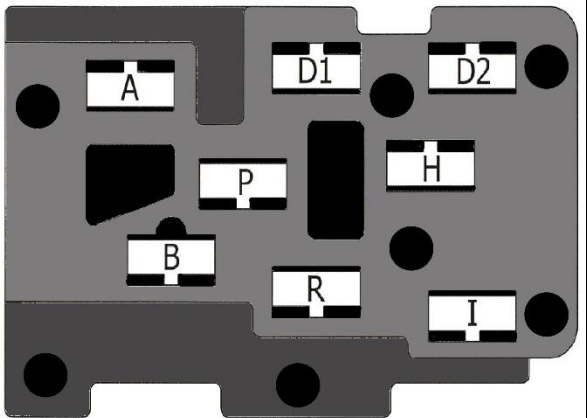

Figure 28 Headlight Switch Connector Housing Wiring (Wire Side View)
- Connect these wires of the Headlight Switch according to **Figure 28**. All Headlight Switch wires are terminated with the correct terminals to fit the original Headlight Switch connector housing. Repeat the procedure for terminal removal and installation discussed in **Section 7.9.1**.